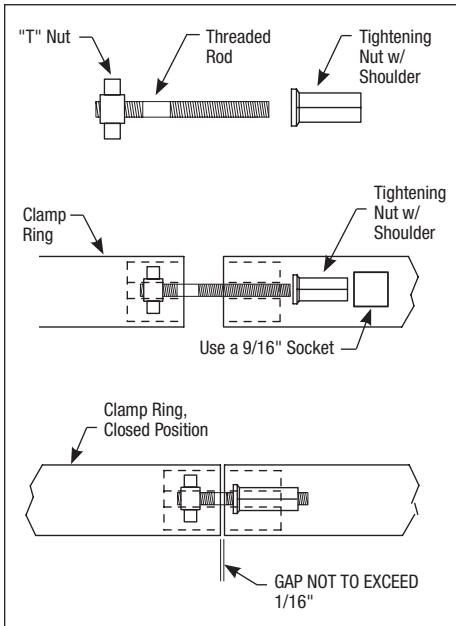

Figure 7. Filter Clamp Ring Assembly
4. Use a 9/16" socket on the tightening nut until the clamp ring halves touch each other, or are within 1/16", see Fig. 7 *but do not overtighten as the clamp can break.* If unable to tighten as indicated, do not operate the filter and *call a service technician immediately.*